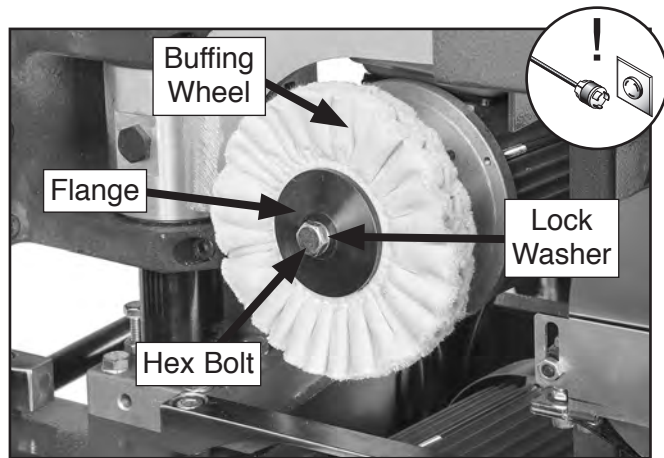

Figure 90. Buffing wheel removal components.
2. Remove hex bolt securing upper buffing wheel (see **Figure 90**). Bolt has left-hand threads (*clockwise to loosen; counterclockwise to tighten*).
3. Remove lock washer, flange, and buffing wheel (see **Figure 90**).